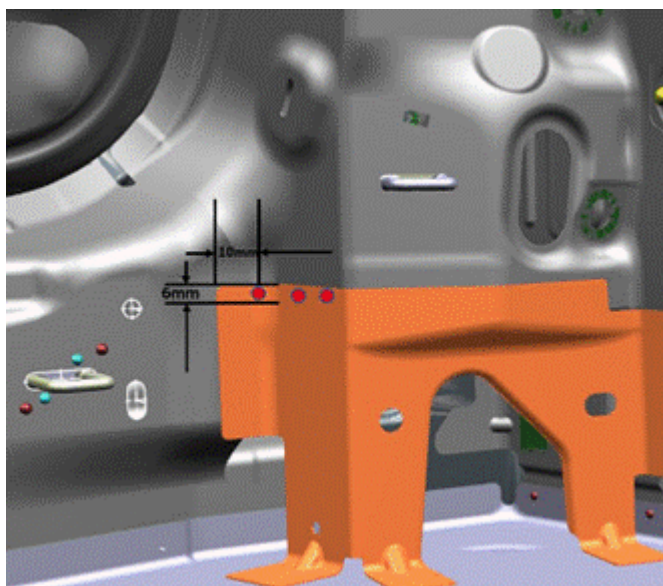

Figure 5. Location of 6.5 mm hole to be drilled in the cross panel section.
- On the rear cross panel section of the left lower support bracket measure and mark 10 mm horizontally from the inner edge of the support bracket and 6 mm downward from the upper edge of the lower support bracket. In this spot shown in the measuring schematic in Figure 5 drill one 6.5 mm hole through all 3 of the panels joined in this area as located by the red dots. Make sure to completely de-burr this drill hole as well.